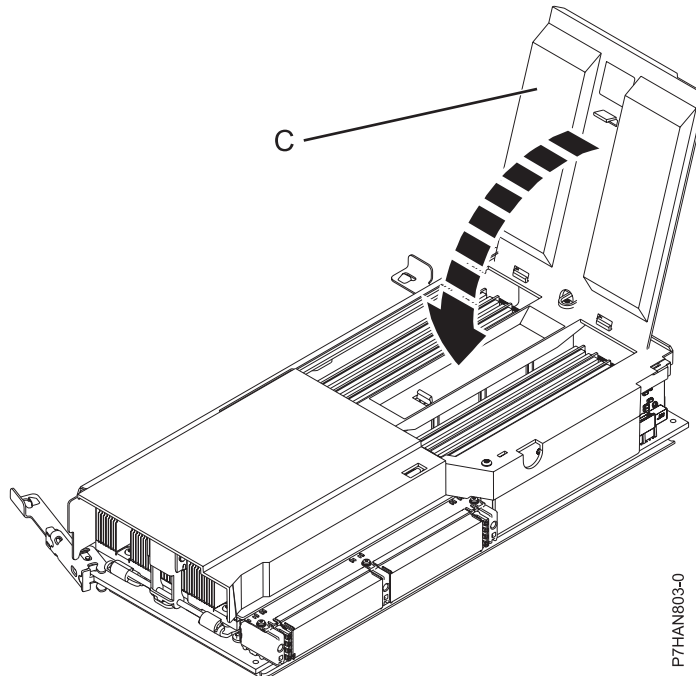

Figure 7. Closing the memory module cover
9. Close the memory module cover **(C)** until it locks in place, as shown in Figure 7 on page 10.